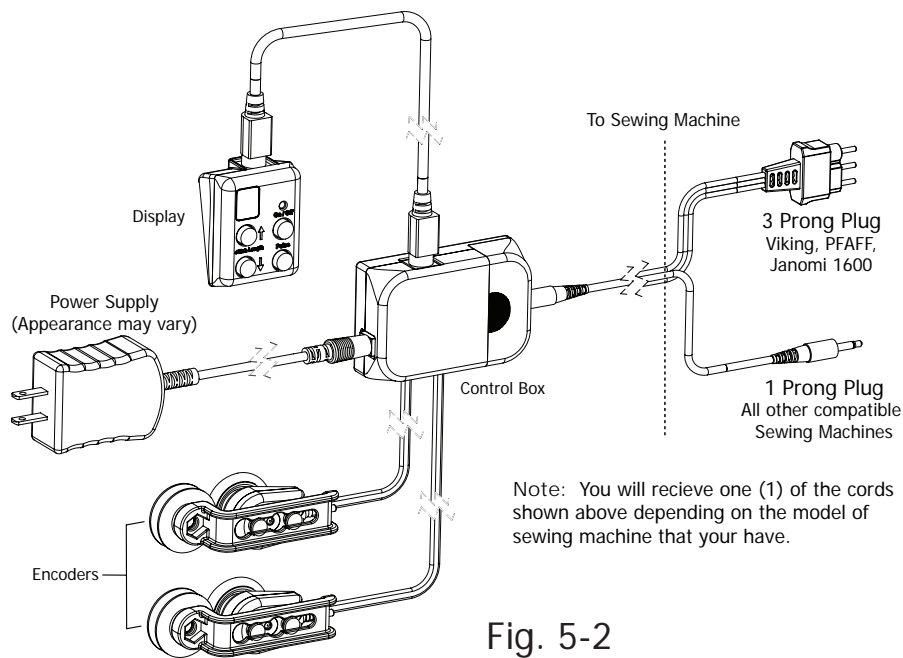

Fig. 5-2
Step 5-1: Attach the Display wire (See Fig. 5-1, and Fig 5-2) to the Display Console, and to the Controller. Be sure to line up the pins in the connectors to prevent bending them. Secure the wire to the carriage to keep the wire neat.